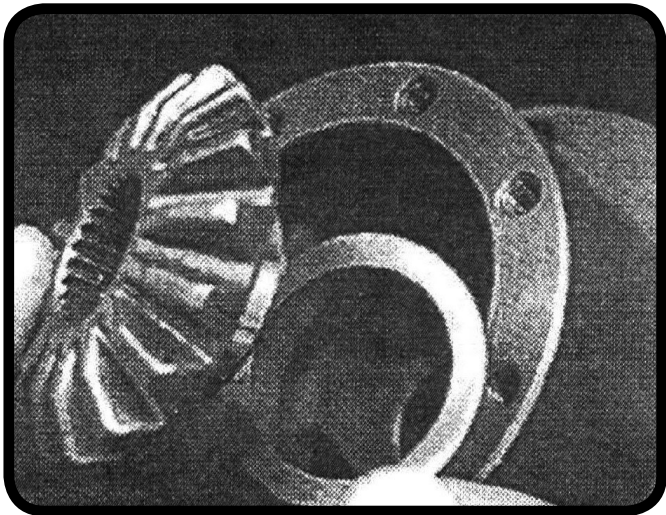

Figure 8
1. Place a thrust washer into the bottom of the case, smoothest side up, and place the gear that formerly was in the top of the case into the bottom (**Figure 8**).